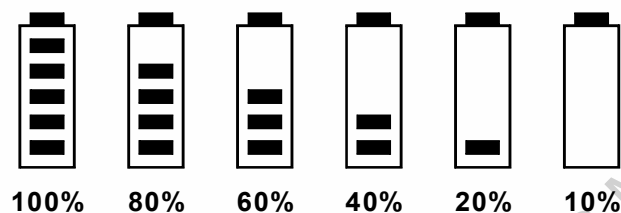

Fig. 16
10. Battery Indicator, Fig. 16: